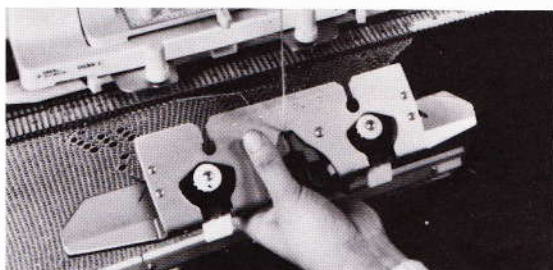

Fig. 223
1. Take off the fabric-press by unscrewing the white knobs (fig. 223).